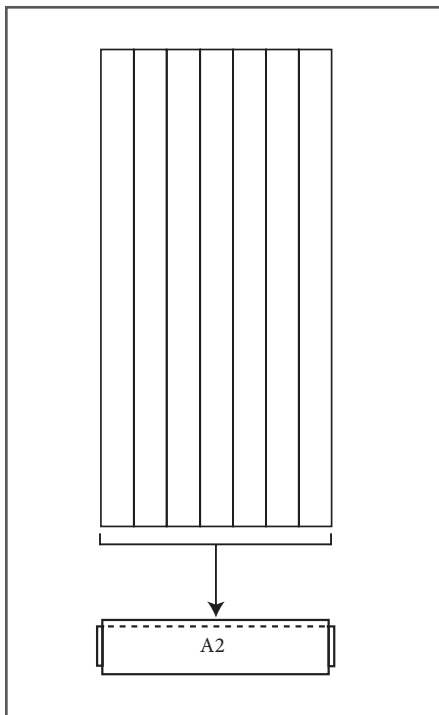

Figure 2
2. Place the Bottom Rail (A2) below the assembled slats. Slide upward to cover the lower edge of the slat assembly. Tap the Bottom Rail into place with a rubber mallet (Figure 2).